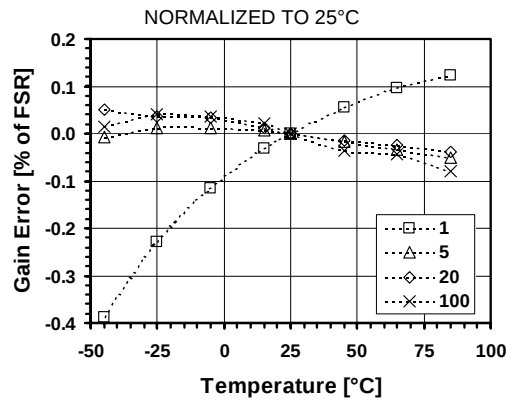

Figure 16-19 Gain error vs. temperature for different PGA gains
- (7) Resolution is given by $n = 2 \cdot \log_2(OSR) + \log_2(N_{ELCONV})$. OSR can be set between 8 and 1024, in powers of 2. N_{ELCONV} can be set to 1, 2, 4 or 8.
- (8) If a ramp signal is applied to the input, all digital codes appear in the resulting ADC output data.
- (9) Gain error is defined as the amount of deviation between the ideal (theoretical) transfer function and the measured transfer function (with the offset error removed). (See Figure 16-19)
- (10) Offset error is defined as the output code error for a zero volt input (ideally, output code = 0). For ± 1 LSB offset, N_{ELCONV} must be ≥ 2 .
- (11) INL defined as the deviation of the DC transfer curve of each individual code from the best-fit straight line. This specification holds over the full scale.
- (12) DNL is defined as the difference (in LSB) between the ideal (1 LSB) and measured code transitions for successive codes.
- (13) Figures for Gains = 1 to 100. PSRR is defined as the amount of change in the ADC output value as the power supply voltage changes.
- (14) Conversion time is given by: $T_{CONV} = (N_{ELCONV} \cdot (OSR + 1) + 1) / f_s$. OSR can be set between 8 and 1024, in powers of 2. N_{ELCONV} can be set to 1, 2, 4 or 8.
- (15) PGAs are reset after each writing operation to registers **RegAcCfg1-5**. The ADC must be started after a PGA or inputs common-mode stabilisation delay. This is done by writing bit Start several cycles after PGA settings modification or channel switching. Delay between PGA start or input channel switching and ADC start should be equivalent to OSR (between 8 and 1024) number of cycles. This delay does not apply to conversions made without the PGAs.
- (16) Nominal (maximum) bias currents in PGAs and ADC, i.e. **IB_AMP_PGA[1:0] = '11'** and **IB_AMP_ADC[1:0] = '11'**.
- (17) Bias currents in PGAs and ADC set to 3/4 of nominal values, i.e. **IB_AMP_PGA[1:0] = '10'**, **IB_AMP_ADC[1:0] = '10'**.
- (18) Bias currents in PGAs and ADC set to 1/2 of nominal values, i.e. **IB_AMP_PGA[1:0] = '01'**, **IB_AMP_ADC[1:0] = '01'**.
- (19) Bias currents in PGAs and ADC set to 1/4 of nominal values, i.e. **IB_AMP_PGA[1:0] = '00'**, **IB_AMP_ADC[1:0] = '00'**.
Figure 16-19 shows gain error drift vs. temperature for different PGA gains. The curves are expressed in % of Full-Scale Range (FSR) normalized to 25°C.